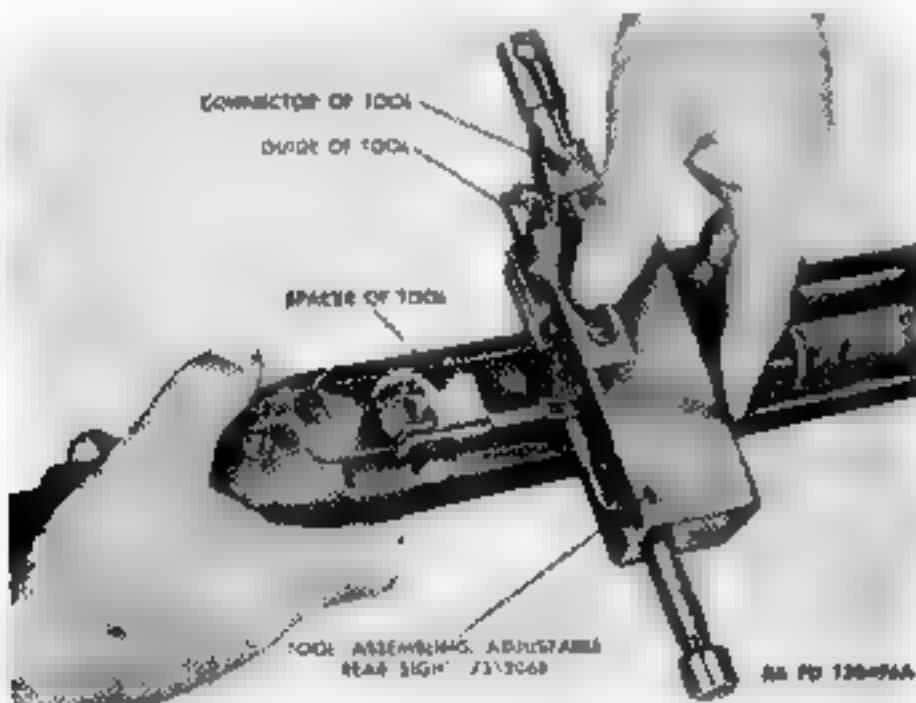

Figure 69. Rear sight assembling tool with spacer.
b. Place adjustable rear sight assembling tool 7312068 on the receiver with the lip of the tool riding on the operating slide guideway in the receiver. If the sight is of the stamped type, insert spacer (Fig. 69) (hanging at end of chain on tool) in place to prevent distortion of sight base wings. With the right hand jack screw retracted to the
7812068 in place for reinforcing the side wings of sight (Fig. 69).